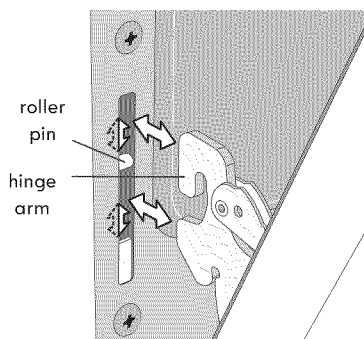

Figure 38: Hinge pin locations
5. With the oven door in the stop position, lift the oven door hinge arms over the roller pins located on each side of the oven frame (Figure 38).
2. Holding the oven door at the same angle as the removal position, seat the hook of the hinge arm over the roller pins located on each side of the oven door frame (Figure 38). The hook of the hinge arms must be fully seated onto the roller pins.